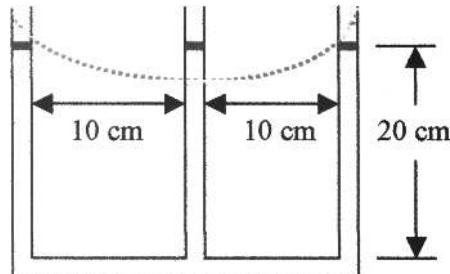

Fig. P2.159
**2.159** The three-legged manometer in Fig. P2.159 is filled with water to a depth of 20 cm. All tubes are long and have equal small diameters. If the system spins at angular velocity  $\Omega$  about the central tube, (a) derive a formula to find the change of height in the tubes; (b) find the height in cm in each tube if  $\Omega = 120$  rev/min. [HINT: The central tube must supply water to *both* the outer legs.]
**Solution:** (a) The free-surface during rotation is visualized as the red dashed line in Fig. P2.159. The outer right and left legs experience an increase which is one-half that of the central leg, or  $\Delta h_O = \Delta h_C/2$ . The total displacement between outer and center menisci is, from Eq. (2.64) and Fig. 2.23, equal to  $\Omega^2 R^2/(2g)$ . The center meniscus